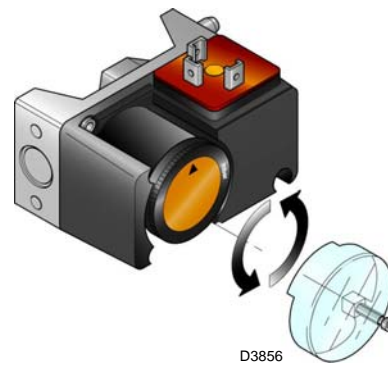

Fig. 37
- Adjust the maximum gas pressure switch (Fig. 37) to the end of the scale.
Adjust the maximum gas pressure switch after having performed all the other burner adjustments with the maximum gas pressure switch set at the end of the scale (Fig. 37).